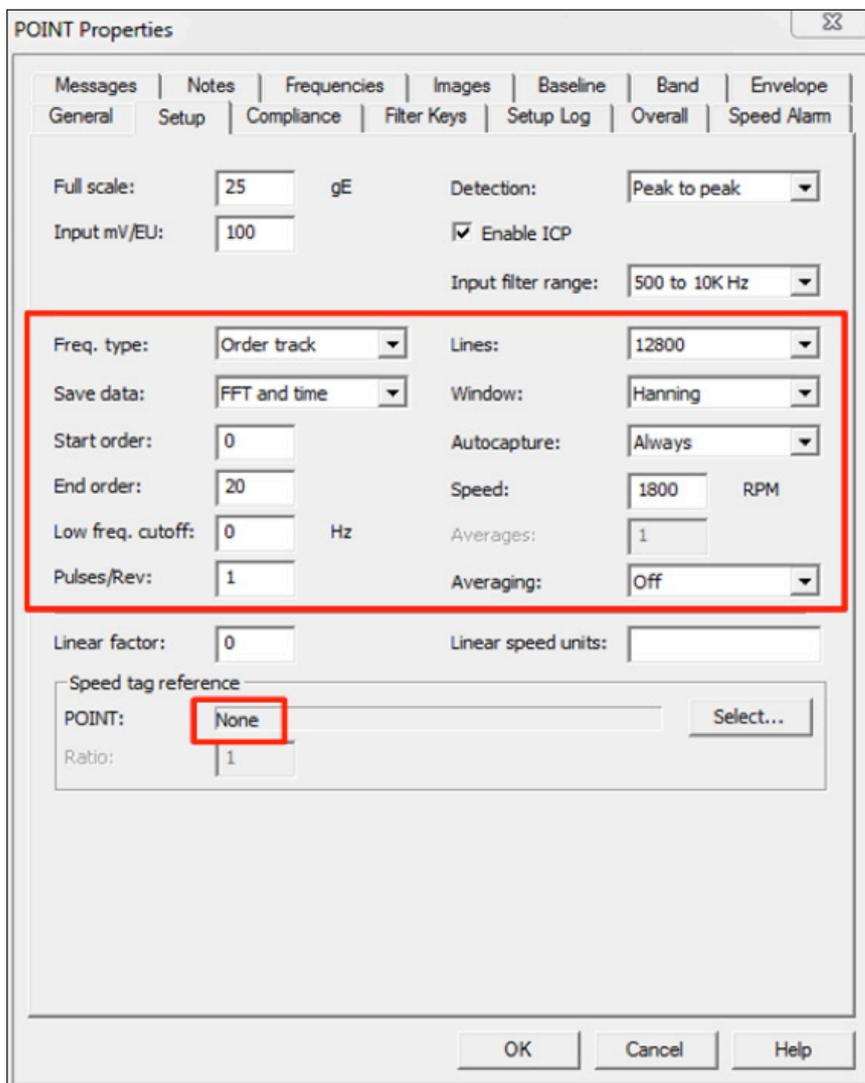

Figure 7. Point Properties Setup for a gE measurement point.
- In the **Point Properties Setup** tab (Figure 7):